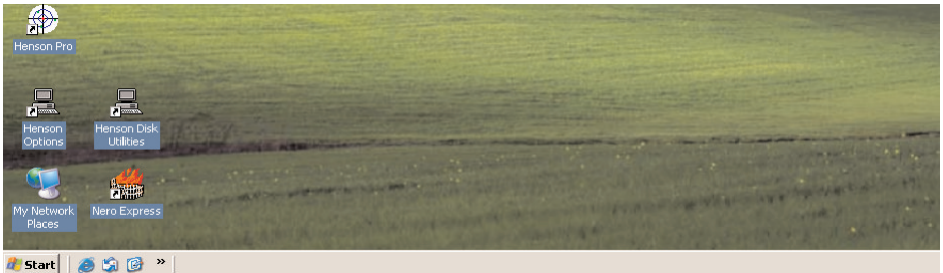

Figure 60. The Windows Desktop showing the start button. (Your desktop background may appear different to this).
1. Exit from the Henson Software and you will be presented with the Windows™ desktop. Press the START button. (see **Fig. 60** below).